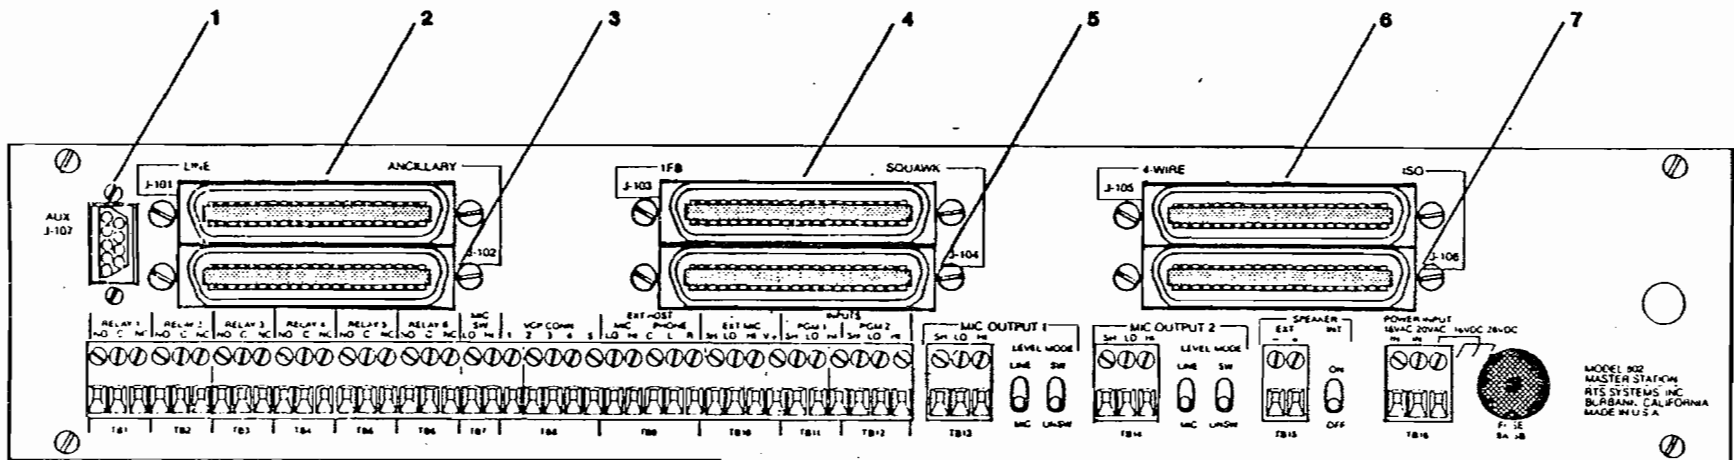
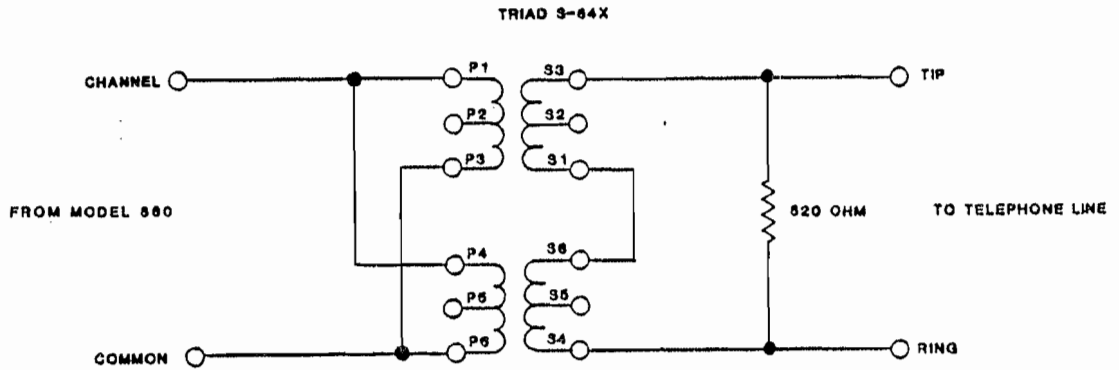

FIGURE 2-10
FIGURE 2-16
RELAY OUTPUTS (See Figure 2-10)
EXTERNAL MICROPHONE SWITCH (See Figure 2-10)
VCP CONNECTOR (See Figure 2-10)
EXTERNAL HEADSET CONNECTOR (See Figure 2-10)
EXTERNAL MICROPHONE CONNECTOR (See Figure 2-10)
PROGRAM INPUTS (See Figure 2-10)
MICROPHONE OUTPUT CONNECTORS (See Figure 2-10)
EXTERNAL SPEAKER OUTPUT (See Figure 2-10)
Method 1: Connect a party-line (PL) channel from either one 802 or from an 862 to either a dry or wet phone line via a step-up transformer as shown in Figure 2-16 (Figure 2-10 in 801 manual). Terminate the phone line with an 820 ohm resistor across the transformer secondary (phone line side). The transformer is large enough so that it can be directly connected across a "wet" line (line with dc current) with negligible ac performance degradation; the secondary is low enough resistance so that it will "hold" the line.